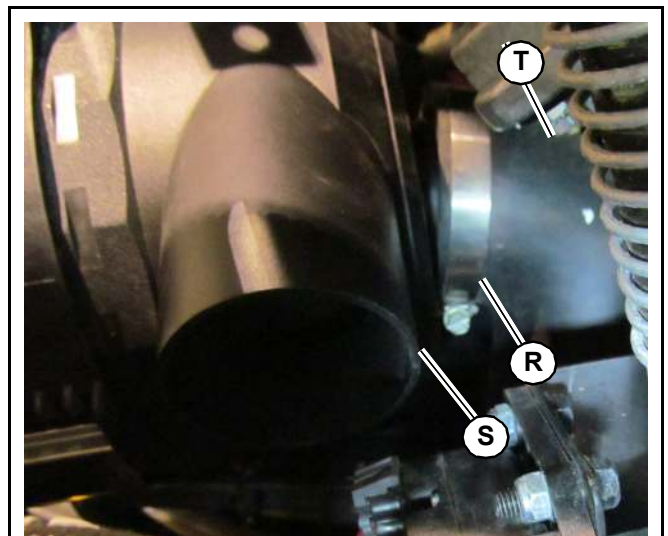

Fig. 334 – Connect Air Cleaner Hose Clamp
21. Secure air cleaner (S, Fig. 334) to intake tube (T) with hose clamp (R). Tighten securely.